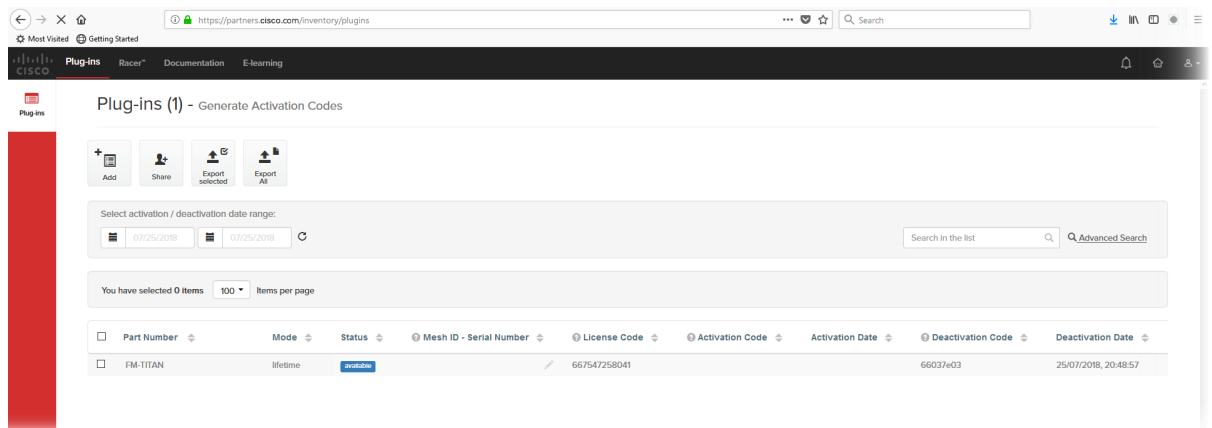

Figure 73. Partner Portal (Plug-ins web page)
- The Plug-ins web page will be shown (Figure 73 \(page 166\)).